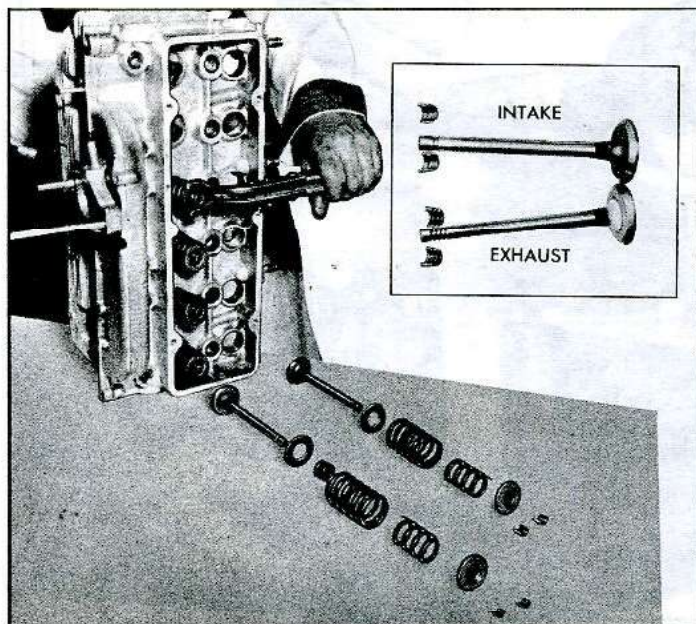

Fig. 79—Compressing Valve Springs
1. Place cylinder head assembly on end and using Tool J-8062, with off-set jaws, compress valve spring, then remove valve locks (fig. 79).